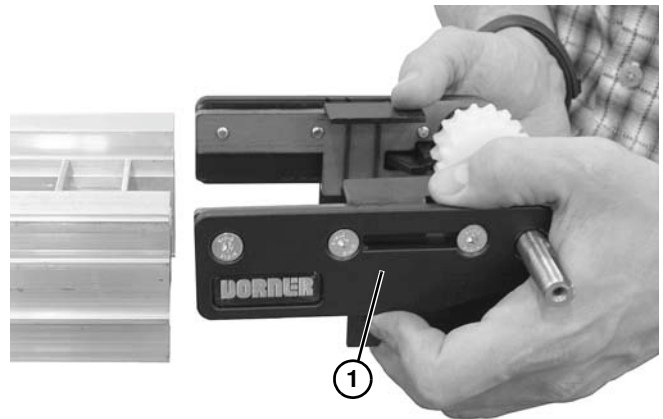

Figure 44
5. Remove end drive (**Figure 44, item 1**) from conveyor.